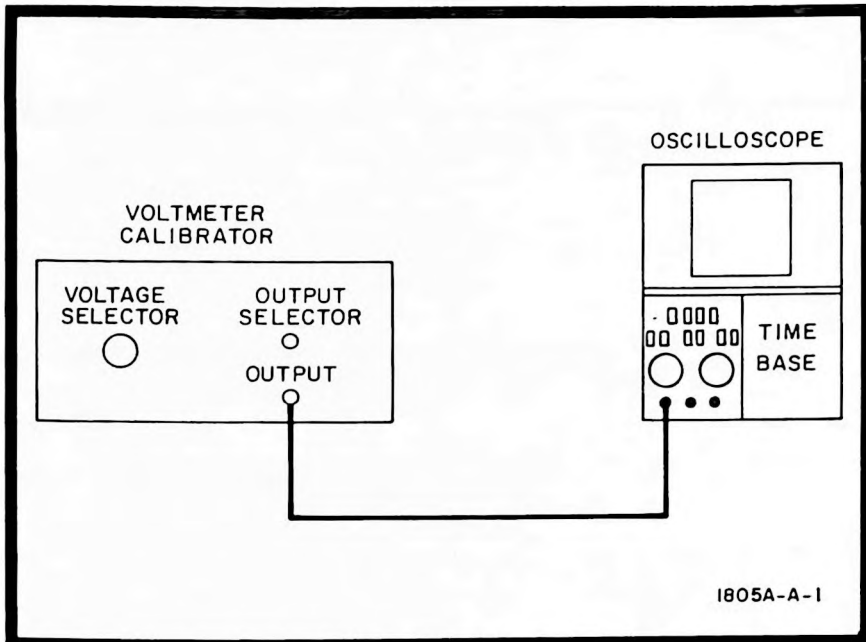

Figure 5-3. Vernier Test Setup
- a. Connect equipment as shown in figure 5-3.